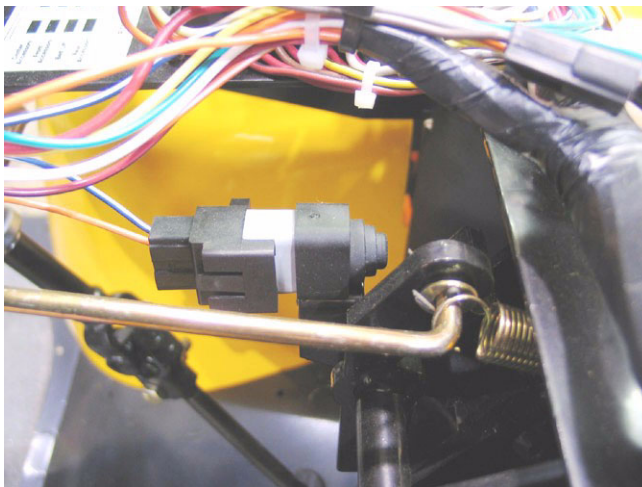

Figure 3.12
- 3.12. If necessary the parking brake switch can be adjusted in its slotted mounting bracket. See Figure 3.12.